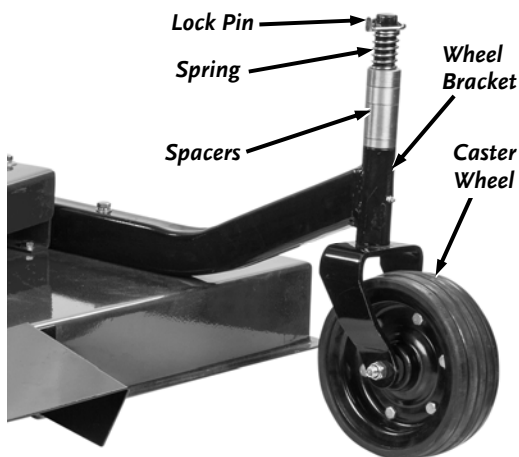

Figure 34
1. Remove the Lock Pin and remove the Caster Wheel Assembly with Spacers (**Figure 34**).